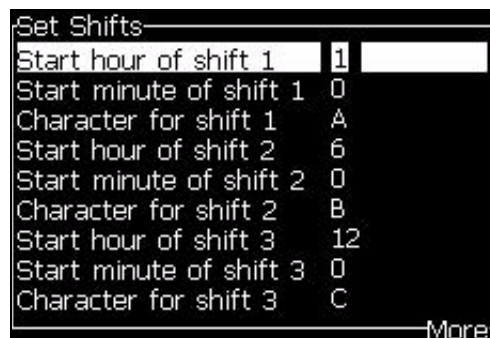

Figure 5-40: Set the Shifts
- 3 Press the *Enter* key to open the *Set Shifts* dialog box (Figure 5-40 on page 5-46).